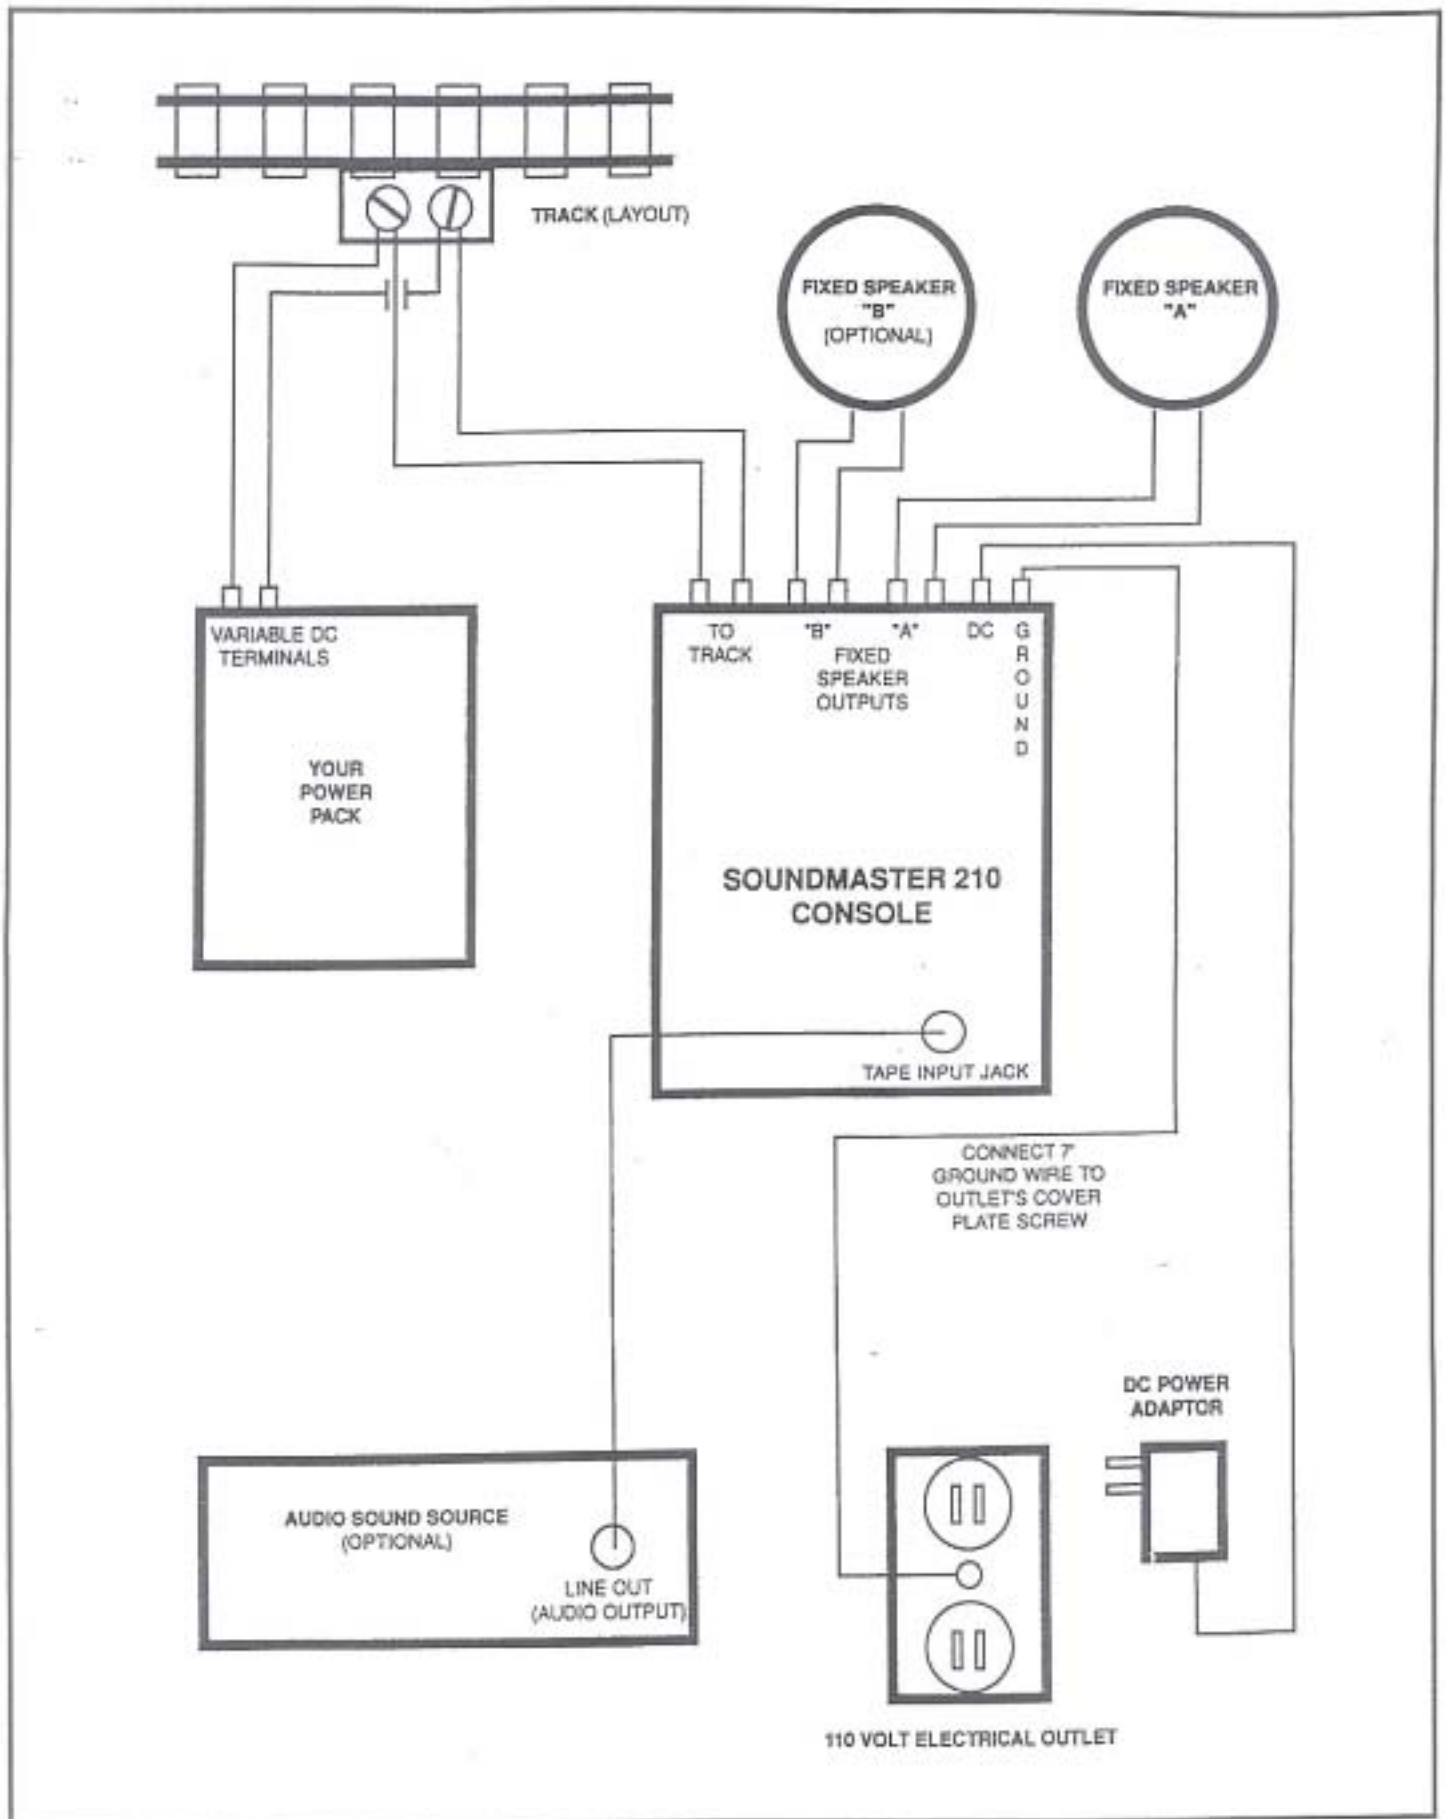

Figure 6: Connecting the SoundMaster 210™ System Components.
1. Refer to Page 7, Figure 6. All system connections must be secure and correct. An engine is not required for the system test.